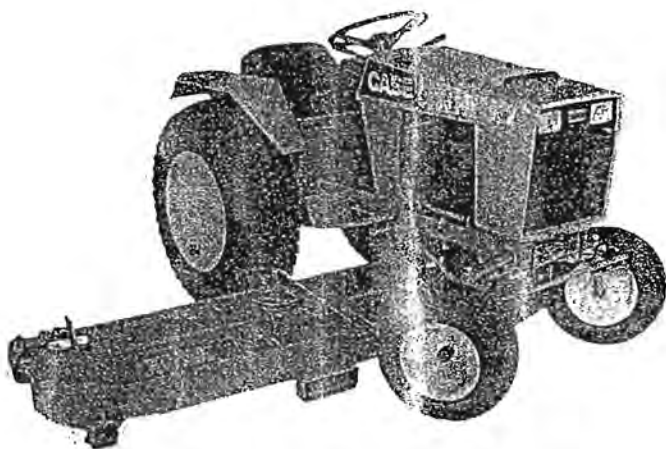

FIGURE 17 Sliding Deck Assembly Under Tractor
1. Turn the front wheels full left as shown in Figure 17 and slide the deck under the tractor from the right hand side. When the left caster contacts the left front tire, turn the front wheels full right. Center the deck under the tractor.